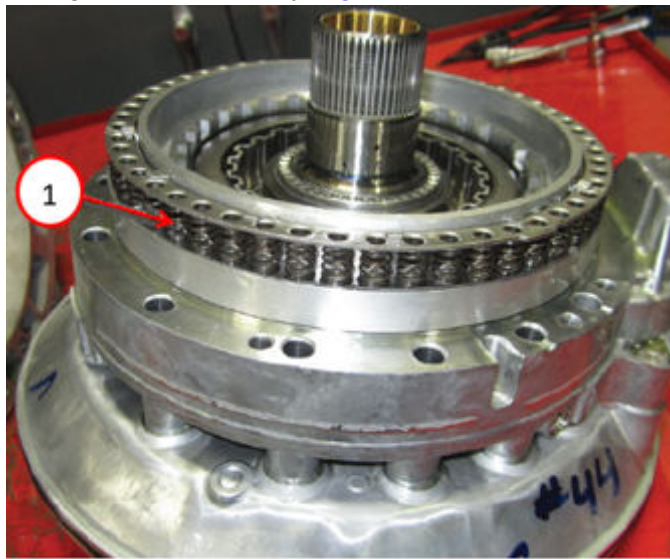

Fig. 37
57. Install the clutch D damper spring on the assembly Fig. 37.